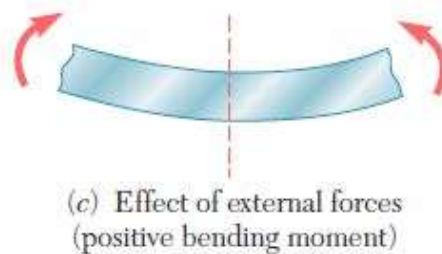

Figure 2.7
- The bending moment at any given point of a beam is positive when the external forces acting on the beam tend to bend the beam at that point as indicated in Figure 2.7.